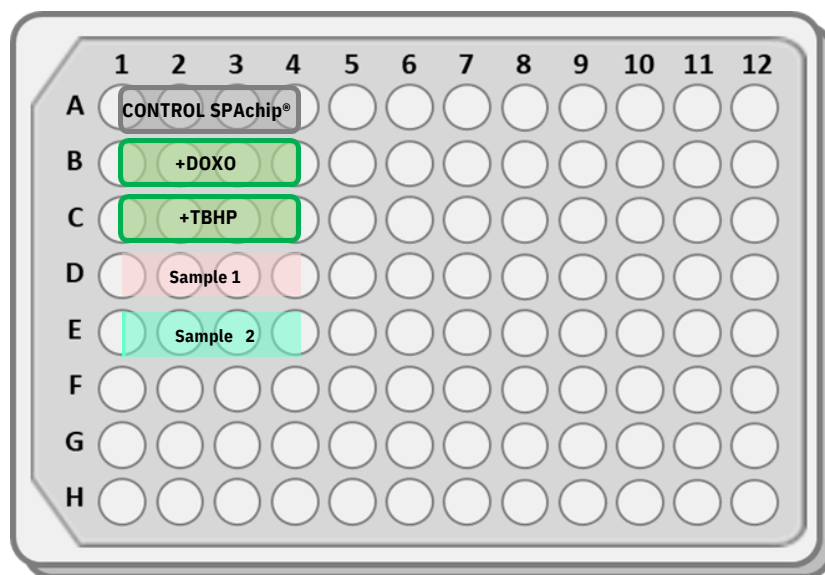

Figure 1: Example of 96-well plate configuration with positive controls and samples.
1. **Seed cells** of interest in a multi-well plate following standard protocols. See an example of plate template in **Figure 1**: control wells are non-fluorescent SPACHIPS; DOXO and TBHP are two examples of compounds that can be used as positive controls for increasing ROS signal levels. Blank conditions with the sample medium should be used as negative control ; *sample 1* , *2* , etc are the measurements of interest whose values should be interpreted according to the ROS positive and negative controls.
5. If fluorescence baseline is required, CONTROL SPACHip® samples (non-fluorescent) can be included in assay design. In a 96-well plate, aspire the cell medium and add 100 µL of CONTROL SPACHip® **dilution** to the control wells (Figure 1). Vortex the tube right before use. Add 100 µL ASSAY SPACHip®-containing fresh culture medium per well⁵. Homogenize the solution by pipetting up and down several times.
7. Use some wells of the plate for positive and negative ROS controls (see example of plate template below in Figure 1).